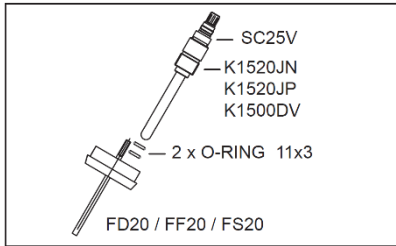

Figure 6: PG13.5 => M25 =>Flow fitting
- FF20 flow fitting / FS20 subassembly / FD20 immersion fitting (see fig 6)